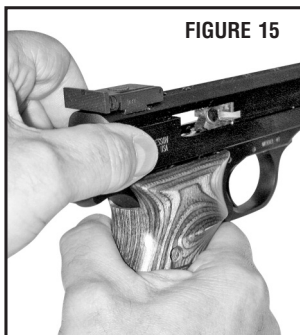

FIGURE 15
- With the muzzle still pointing in a safe direction, and with your finger off the trigger and outside the trigger guard, grasp the sides of the slide from the rear with your thumb and fingers, and briskly draw the slide fully rearward in order to extract any cartridge from the barrel chamber and clear it from the pistol (FIGURE 15).
- Do not obstruct the ejection port because doing so can interfere with ejection of a cartridge (FIGURE 15).